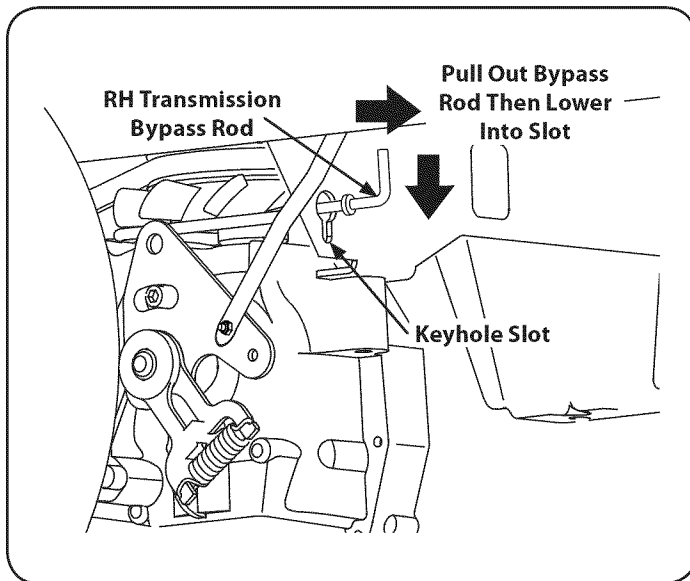

Figure 31
1. From just in front of the two rear tires, locate the transmission bypass rods. Refer to Figure 31.
1. If not already loose, loosen the flange lock nut and rotate the control lever either forward or rearward to the desired position. See Figure 31.